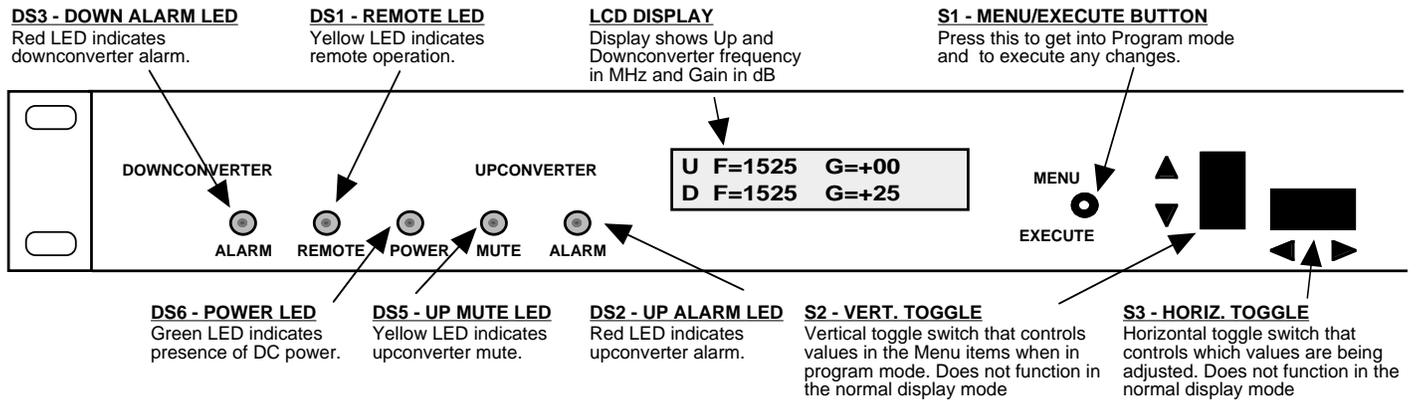

Figure 2.2 Model 2017-03A Front Panel Controls and Indicators
Figure 2.2 shows the input and output connectors on the rear panel.
- 7.) Be sure DS6 (green, DC Power) is on and DS2 (red, Alarm) is off (Figure 2.2)
- 7.) Be sure DS6 (green, DC Power) is on and DS2 (red, Alarm) is off (Figure 2.2).
2.5.1 Functions - This section describes operation of the front panel controls. There are three operator switches, the LCD display and alarm indicator LEDs. All functions for the equipment are controlled by these components. The functions are (see Figure 2.2):
Alarm indications appear on the LEDs (see figure 2.2).